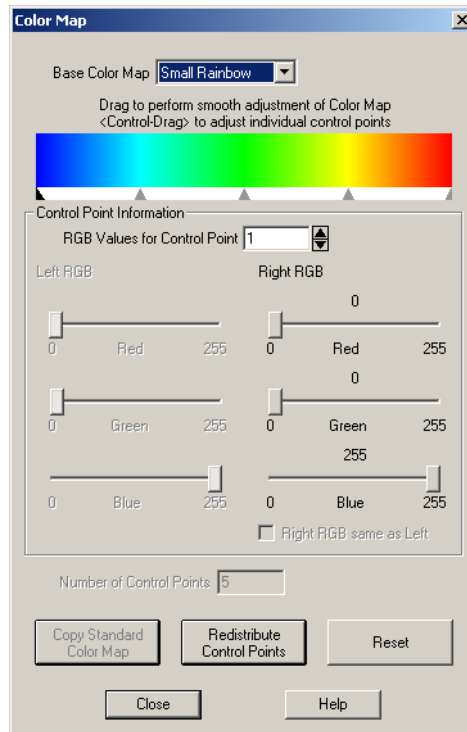

Figure 11-9. The Color Map dialog.
1. From the Workspace menu, choose Color Map. The ColorMap dialog appears, as shown in Figure 11-9.